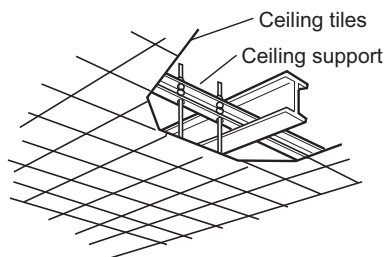

Fig. 2-78
- Use existing ceiling supports or construct a suitable support (Fig. 2-78).